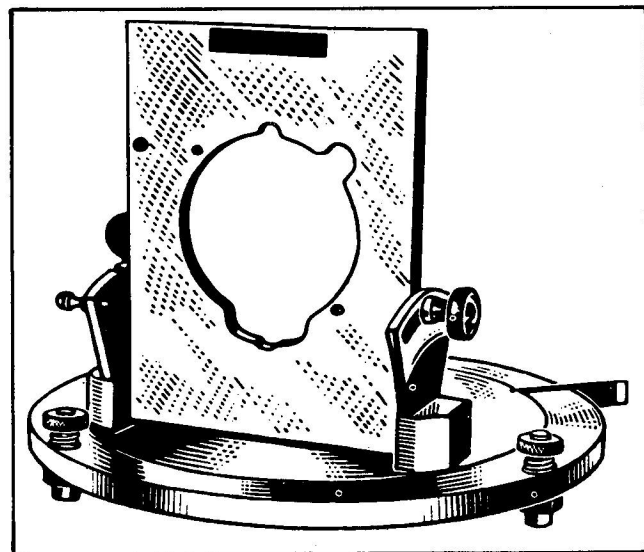
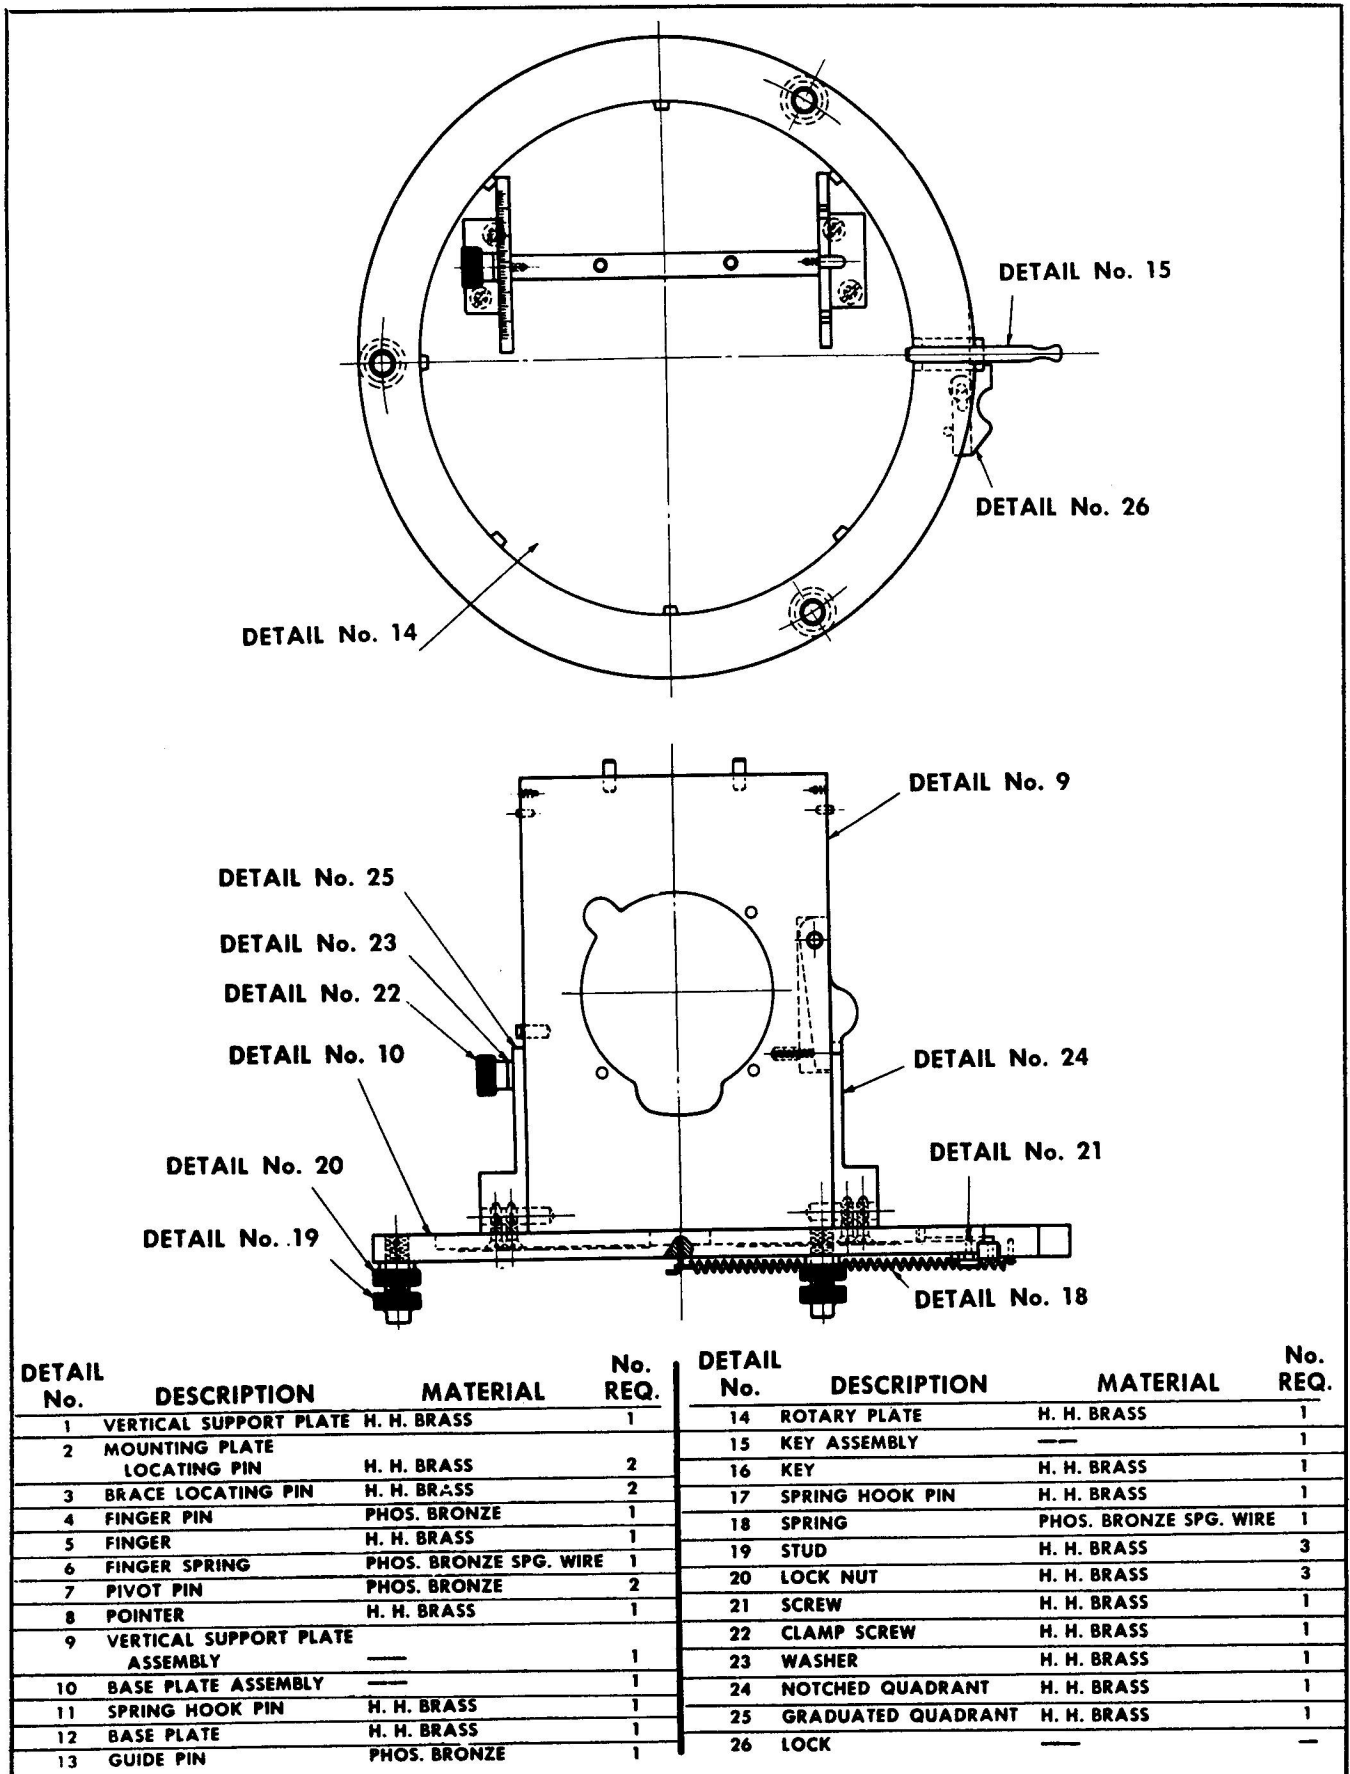

Figure 31 — Compass Turntable
Figure 42 — Compass Turntable
(a) Place the compass on a rotatable stand (figure 31) in the earth's magnetic field, and undisturbed by any local magnetic influences. Drawings of the compass stand are shown in figures 42, 43, 44 and 45.
b. COMPASS TURNTABLE.—(See figures 42, 43, 44 and 45.) Complete details of a compass turntable are illustrated. These incorporate all the fixtures that are desirable in such a turntable.